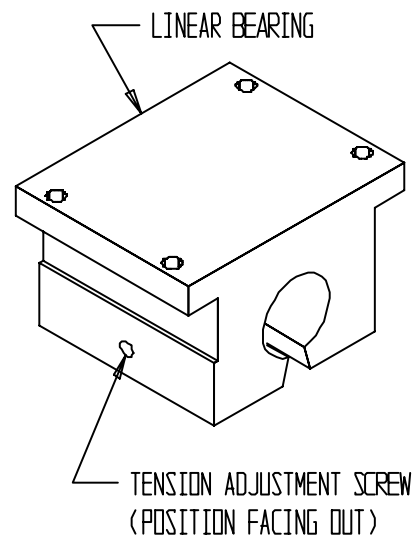

FIG. 2
If dial reads more than .003" of movement, adjust bearing tension. Using the bearing tension screw. See Fig 2.
**STEP 3**--Insert a new linear bearing onto the end of the carriage shaft with the tension adjustment screw pointing outward. See FIG. 2. Adjust the tension screw of the linear bearing so when you radially rotate the linear bearing around the carriage shaft there should be no free play between the linear bearing and the carriage shaft.